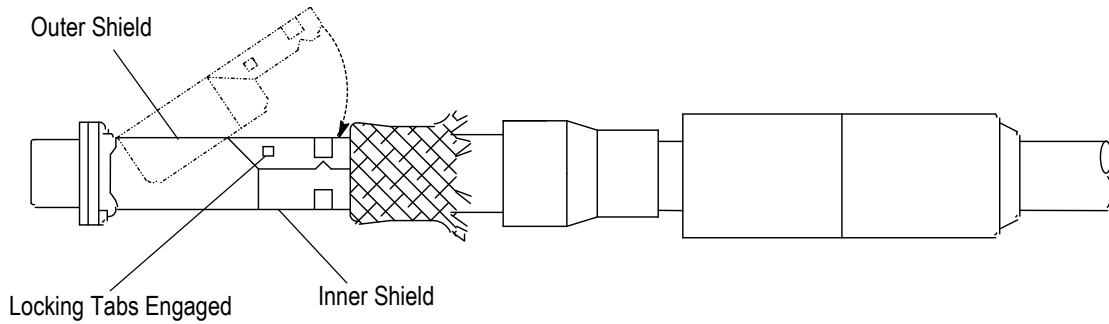

Figure 9
3. Close the outer shield towards the connector while maintaining position of the inner shield until the locking tabs engage the windows as shown in Figure 9.